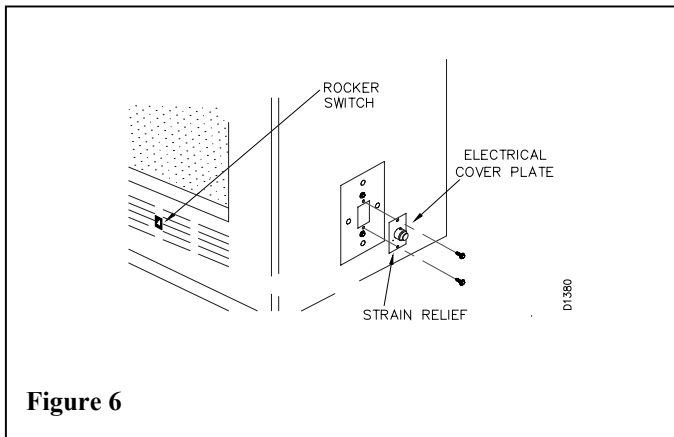

Figure 6
A fan kit assembly is preinstalled in this fireplace. Use of blowers or fans other than manufactured by DESA voids the warranty. The fan is operated by pressing the rocker switch located at the lower right hand corner of the fireplace face. Fan kit electrical connections are made through the electrical cover plate located on the side of the fireplace as shown in figure 6.
- ii. Remove electrical cover plate (with strain relief) from the fireplace by removing the two sheet metal screws as shown in figure 6.